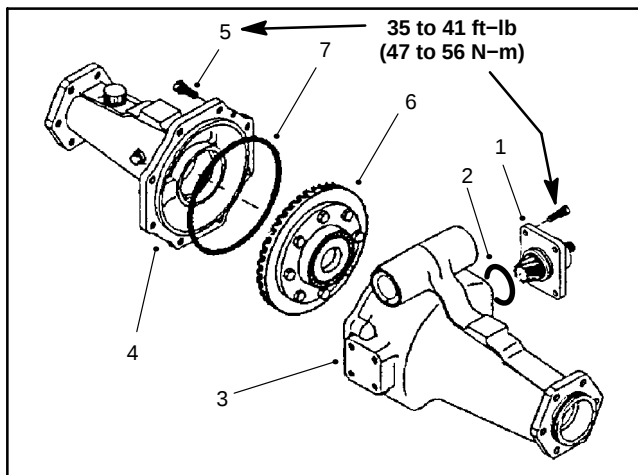

Figure 82
3. Remove input shaft/pinion gear assembly, shims and O-ring from the axle support (Fig. 82).